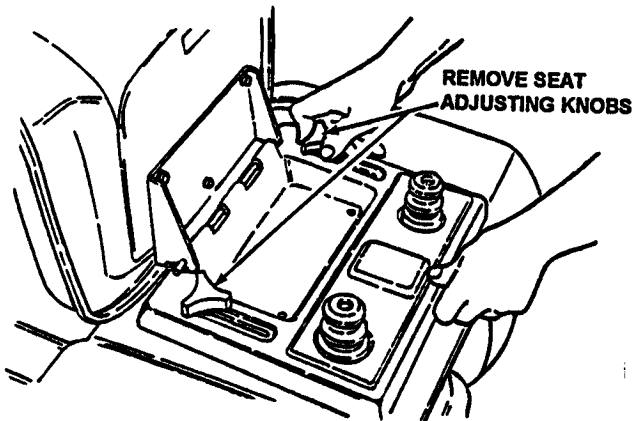

FIGURE 15
1. Remove Operator's Seat by removing Seat Adjustment Knobs. See Figure 15.
13. Reinstall and adjust seat. See Figure 15.